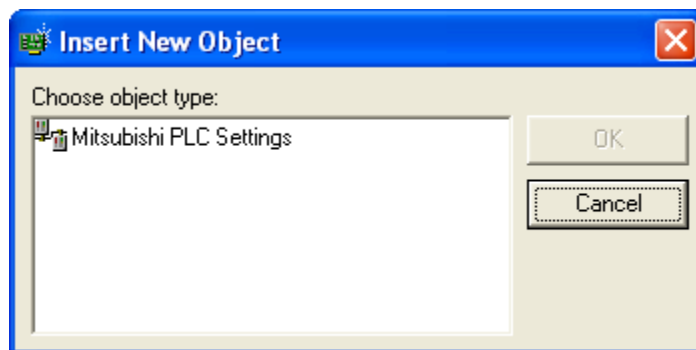

Figure 20 - Insert New Object Window
- The **Insert New Object** window (Figure 20) appears.